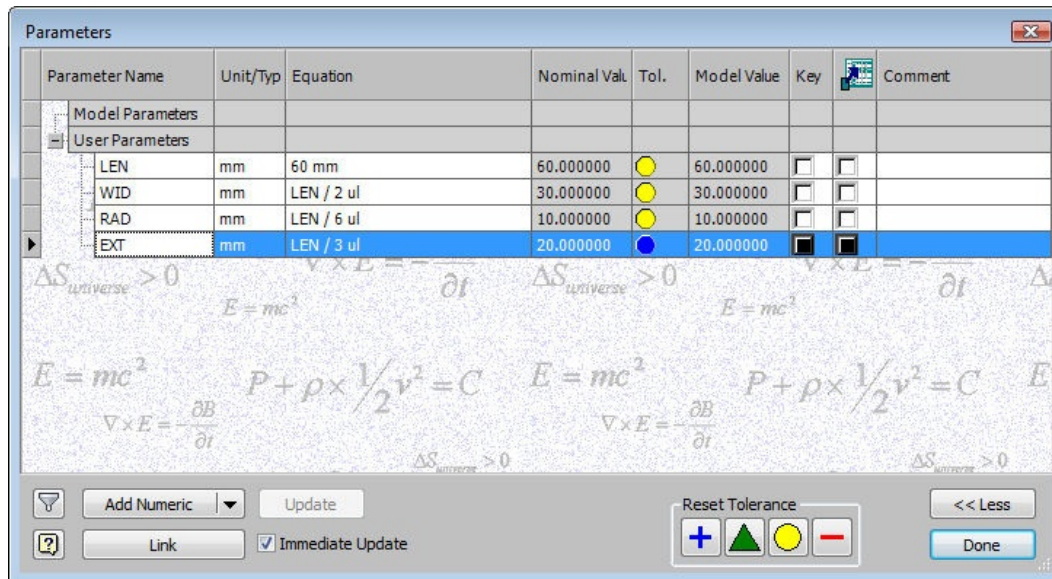

Figure 14-30 The **Parameters** dialog box after adding the user-defined parameters
- c. Invoke the **Parameters** tool and create required parameters, refer to Figure 14-30.
7. Similarly, create the remaining parameters. The **Parameters** dialog box after creating all the parameters is shown in Figure 14-30. Choose **Done** to exit the